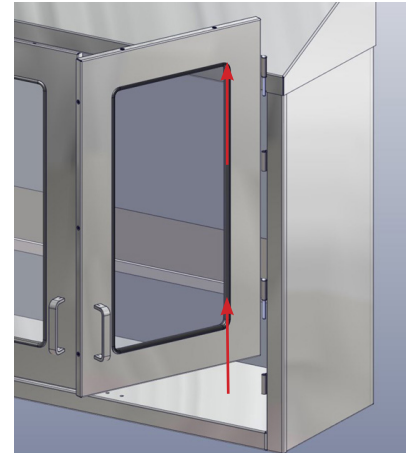

Fig. 11: Lift Door from Hinges
1. For Cabinets with doors, it will be necessary to first remove the doors. Open the doors fully and lift it off its hinges. The pin on the hinge of the door will slide out of the barrel of the hinge on the cabinet (Fig. 11).